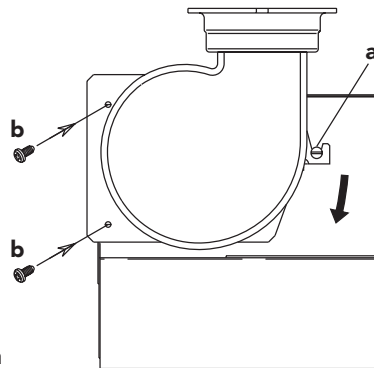

Fig. 21a
6. Before mounting boiler remove fan assembly as per fig. 21a page 19.